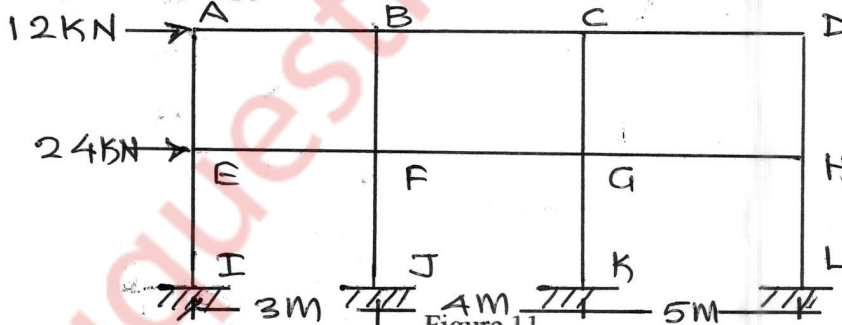

Figure 11
- Q6 a) The frame shown in Figure 11 is subjected to lateral loads. Analyse the frame by **Approximate Method** and find vertical force in columns. 12